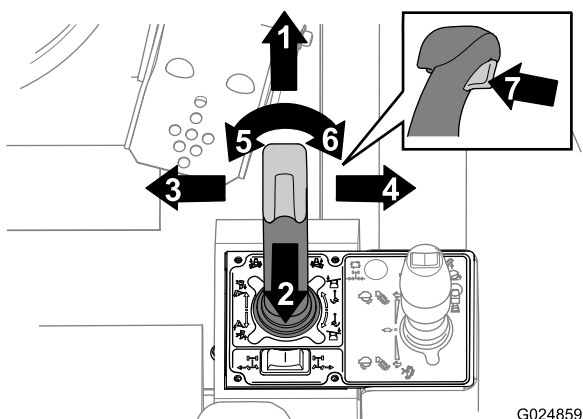
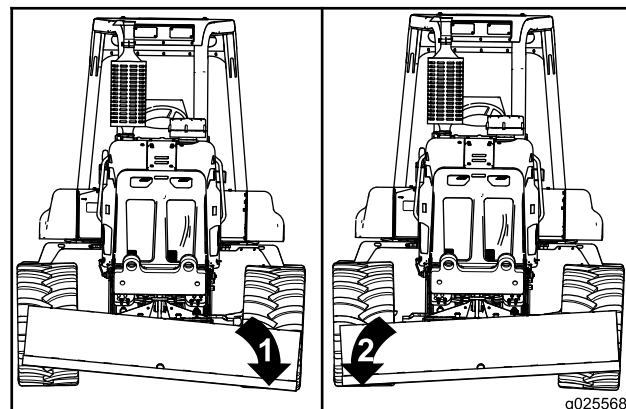
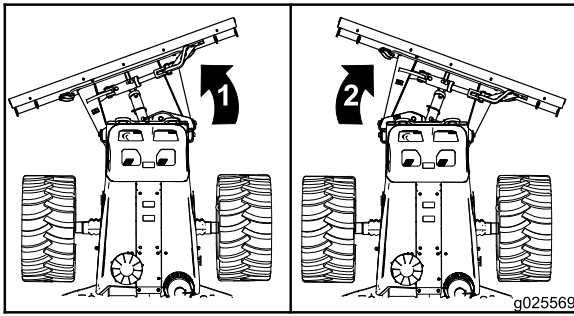

Figure 53
Figure 56
Figure 57
Use the backfill blade to return the spoils into the trench. You control the backfill blade with the backfill-blade/vibratory-plow joystick. Use the joystick, trigger, and thumb switch as shown in Figure 53.
- To tilt the backfill blade down on the left: Move the joystick left—toward you (Figure 53 and Figure 56).
- To tilt the backfill blade down on the right: Move the joystick right—away from you (Figure 53 and Figure 57).
- To angle the backfill blade to the left: Press the left half of the thumb control (Figure 57).
- To angle the backfill blade to the right: Press the right half of the thumb control (Figure 57).
- To hold the backfill blade: Keep the joystick in the Hold (Neutral) position (Figure 53).
- To float the backfill blade: Pull the trigger (Figure 53).